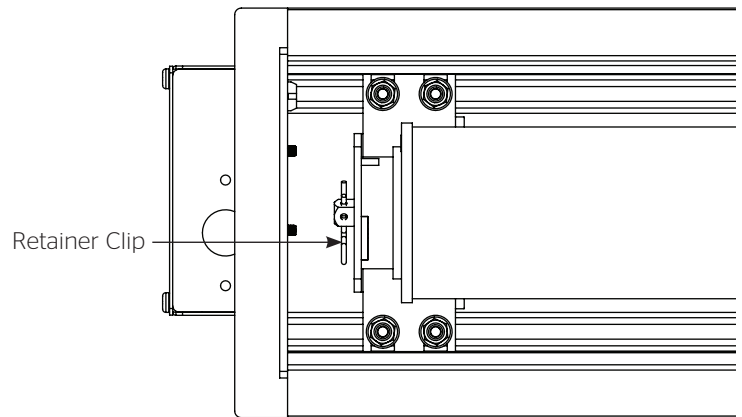

Figure 2 - Motor End
4. Remove retainer clip from the motor (Figure 2).